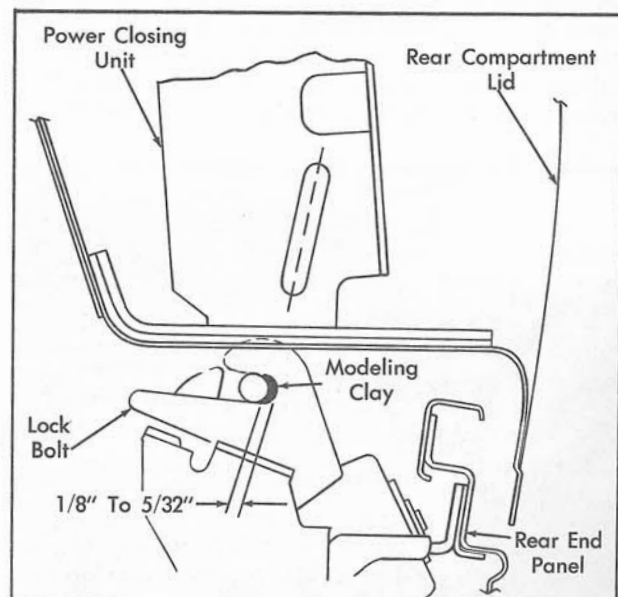

Fig. 17-60 Checking Engagement of Lock and Power Closing Unit
1. Insert a small quantity of modeling clay at bottom of the bolt slot, Fig. 17-60, and close lid.